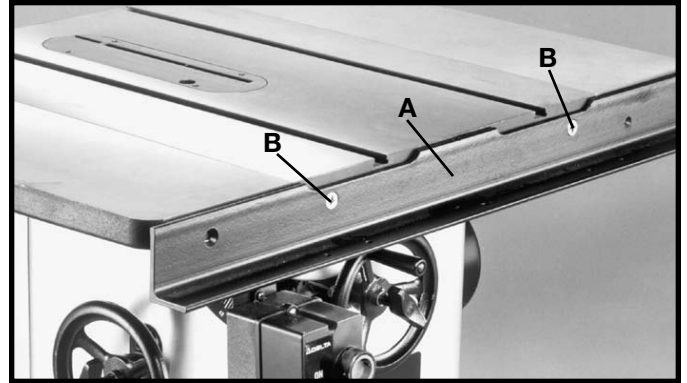

Fig. 88
1. Assemble the front rail (A) Fig. 88, to front of saw table using the two 3/8-16 x 1-1/4" long flat head Phillips screws (B), 7/8" flat washers, lockwashers and 3/8-16 hex nuts supplied. Screws (B) are inserted through the two holes in the front rail, as shown and through the two through holes in the front of the saw table and fastened to the table with the flat washers, lockwashers and hex nuts. **IMPORTANT:** Do not completely tighten front rail mounting hardware at this time.